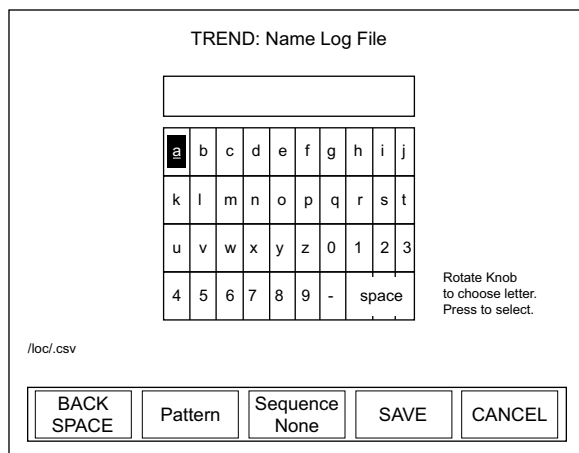

Figure 4-29. TREND: Name Log File
1. Press the CREATE FILE soft key on the TREND screen to display the TREND: Name Log File screen (Figure 4-29):